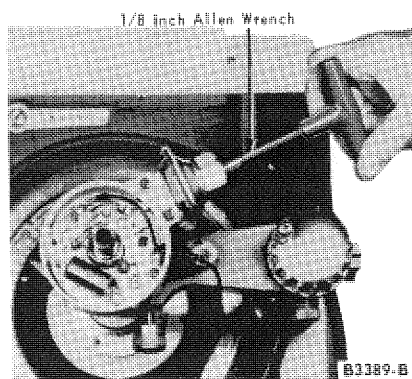

FIG. 8 Vacuum Advance Adjustment
4. If the advance is incorrect and adjustment is required, disconnect the vacuum line and insert a 1/8 inch socket head wrench in the end of the diaphragm (Figure 8). Turn the wrench clockwise to increase the vacuum advance or counterclockwise to decrease it.